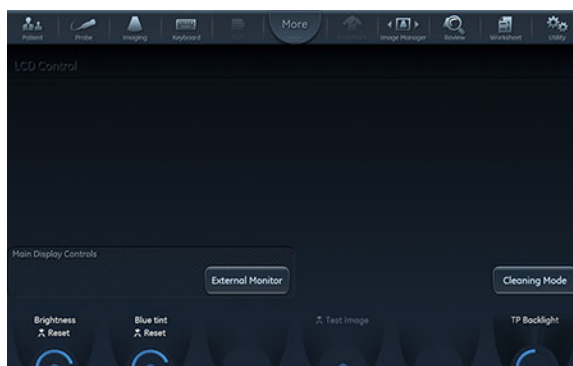

Figure 3-32. LCD adjustment utility
- Tap the LCD setup tab. The touch-panel will display several screen adjustments controls (Figure 3-32).